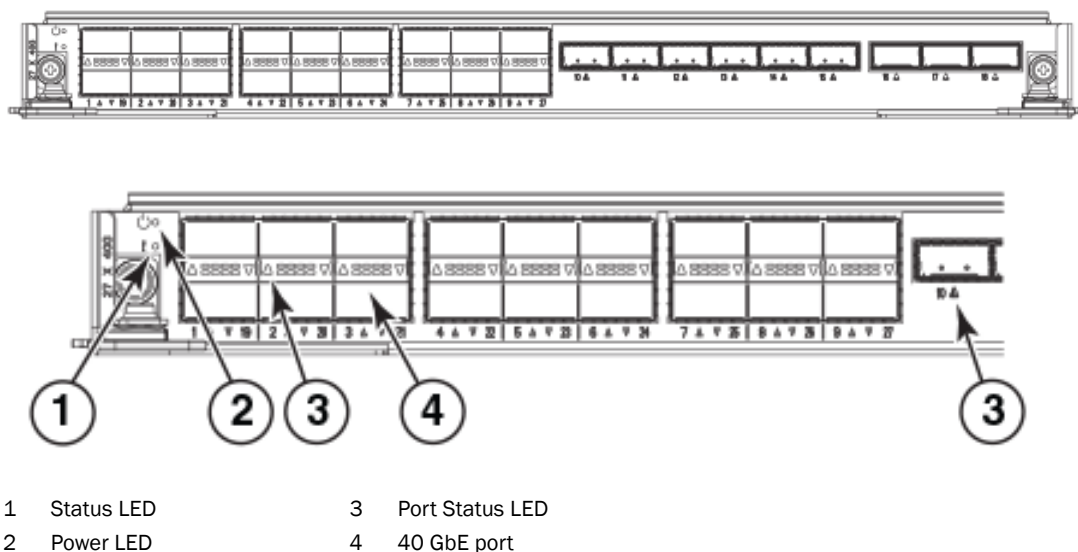

FIGURE 12 27x40 GbE line card (full view and close-up)
- Figure 12 illustrates the 27x40 GbE line card.